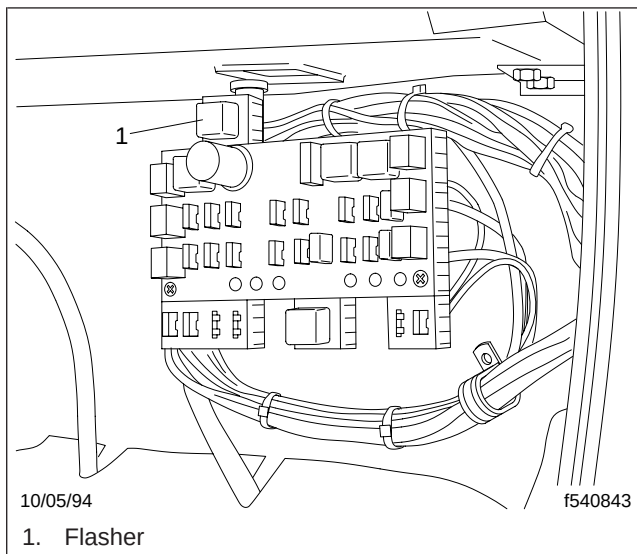

Fig. 1, Under-Dash Electrical Panel
1. Uncover the electrical panel (**Fig. 1**) by removing the fasteners.
5. Check the turn-signal flasher (if so equipped). See **Fig. 1**. Make sure that the two male and female connectors are firmly connected. Check that the flasher fuse is firmly seated in its holder.